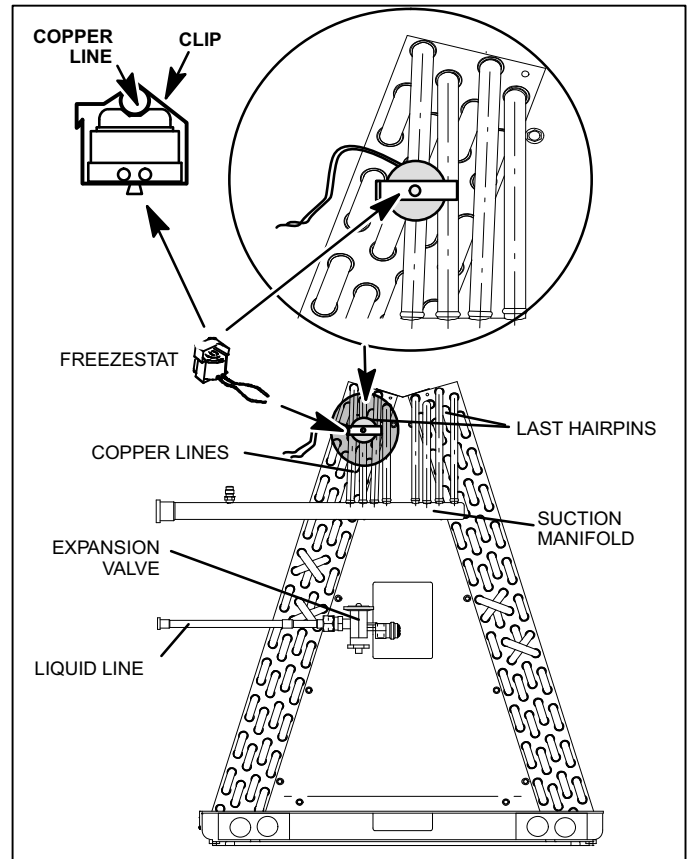

Figure 2. Typical Freezestat (S49) Installation (Indoor Coil)
- 1 - A freezestat, sized per table 1 and ordered separately, must be installed. Install the freezestat on one of the copper lines between the last hairpins and the suction manifold (see figure 2) of the indoor coil.
- 1 - A freezestat, sized per table 1 and ordered separately, must be installed. Install the freezestat near last bend (tube) of the indoor coil before the suction manifold (see figure 2).
See Figure 2. Typical Freezestat (S49) Installation (Indoor Coil)